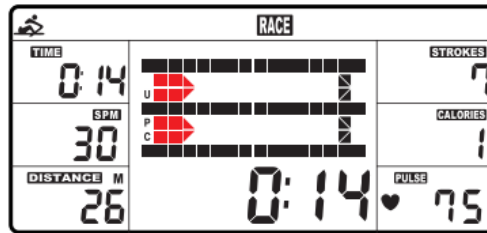

Fig. 6
C. Press START button to start and STOP will disappear. USER and PC will be displayed in the center window (Fig.6). The computer will stop when either the user or the computer has reached the race distance that was set. Then the matrix displays "PC WIN" or "USER WIN" (Fig.7).